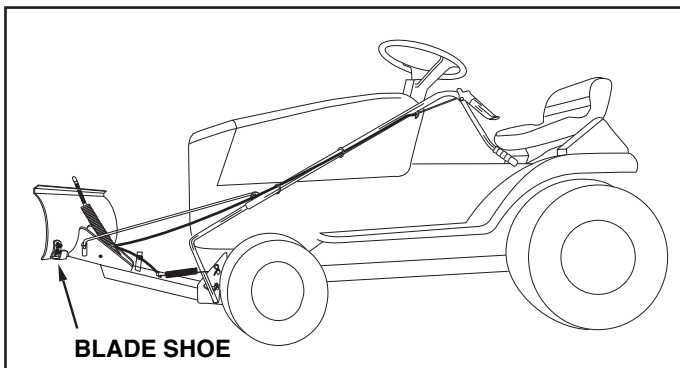

FIGURE 25
- The blade shoes at the ends of blade may be raised for close work on smooth surfaces or lowered to raise the blade to work on rough or uneven areas. Make sure both shoes are set evenly and that the nuts are tightened securely. See figure 25.